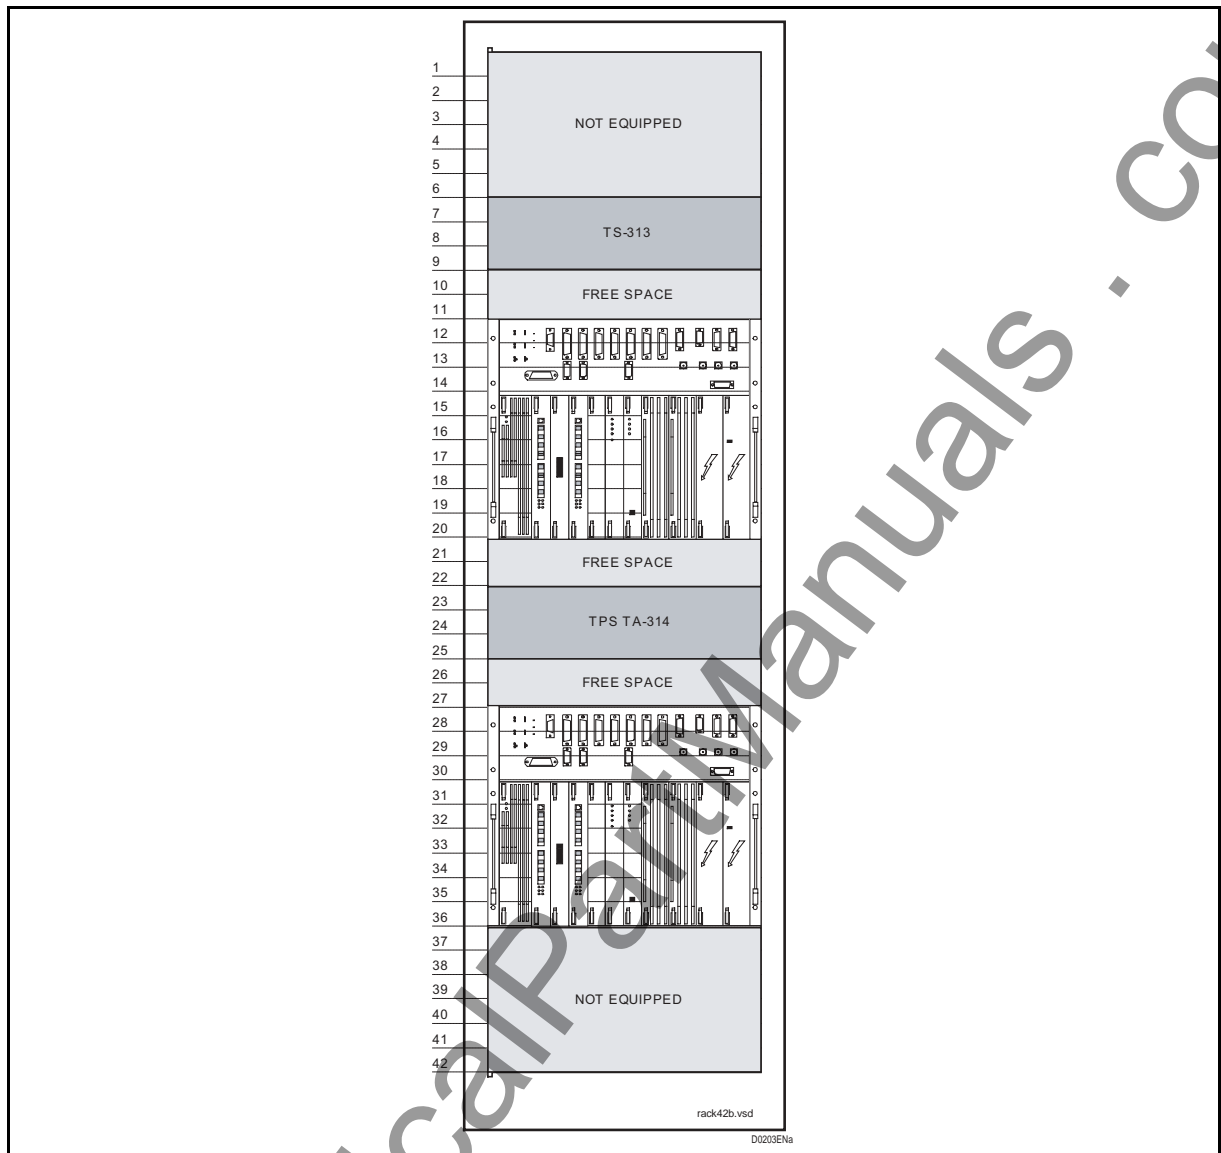

FIGURE 3 – PLC INSTALLATION EXEMPLE
- **The minimum distance to leave between the PLC and the other equipment installed into the same rack must be, at least, of 2 din unit, see Erreur ! Source du renvoi introuvable.**figure 3.